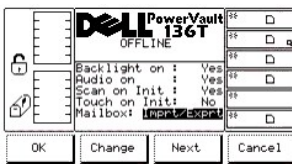

Figure 76. Setup > Utils > Config > Mailbox Dialog
- 1 If the button beneath the **Next** softkey is pressed, the next field in the list is made the active field. If the next field is the last field, see Figure 76.